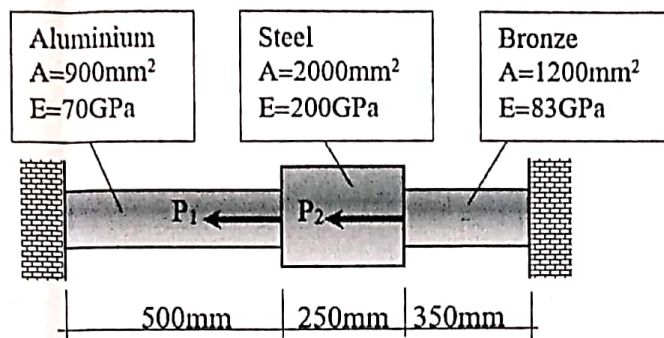

Figure Q1
1. The composite bar in Figure Q1 is stress-free before the axial loads P_1 and P_2 are applied. Calculate the stress in each material if $P_1 = 150\text{kN}$ and $P_2 = 90\text{kN}$, given that: